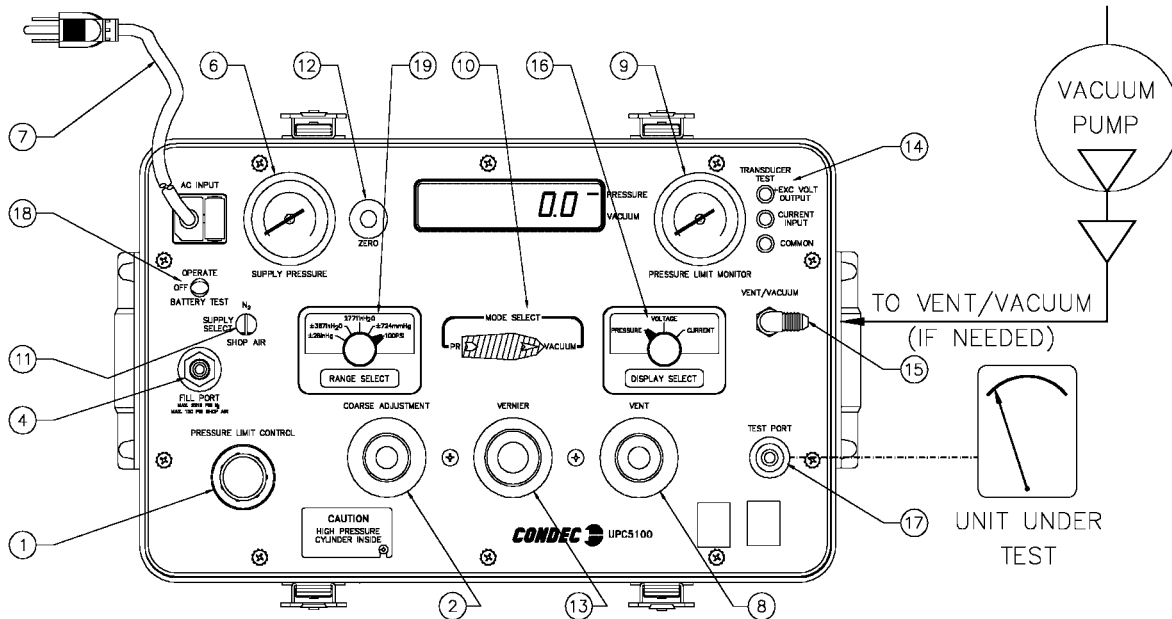

Figure 2-3. Pressure or Vacuum Measurement Sequence
NOTE: See Figure 2-3 on page 5 when following these steps:
See Figure 2-3 above and proceed as follows:
- 4.3 To obtain exact pressure readings, slowly rotate the *VERNIER* control (13) knob in the direction required (counter-clockwise to increase vacuum) as indicated by the electronic numerical display.
5. If simultaneous pressure measurements above and below atmospheric pressure are required, or if a vacuum level higher than 27" Hg are required, connect a vacuum pump to the *VACUUM/VENT* port (15) as shown in Figure 2-3 on page 7.
6. Open the *VENT* valve (8). Close the *COARSE ADJUSTMENT* valve (2) and apply power to the vacuum pump and allow it to evacuate the system for several minutes or until the digital display reading reaches equilibrium near zero PSIA. Press the *ZERO* button to establish a zero reference on the display.
7. With the vacuum pump still running, close the VENT valve (8) and check for system leaks. If there are none, continue to step 7.1
An ON/OFF/BATTERY TEST switch (18) (Figure 2-3 on page 7) is provided to conserve energy when the instrument is not in use, and to provide the operator with information as to the status of the battery voltage during use.